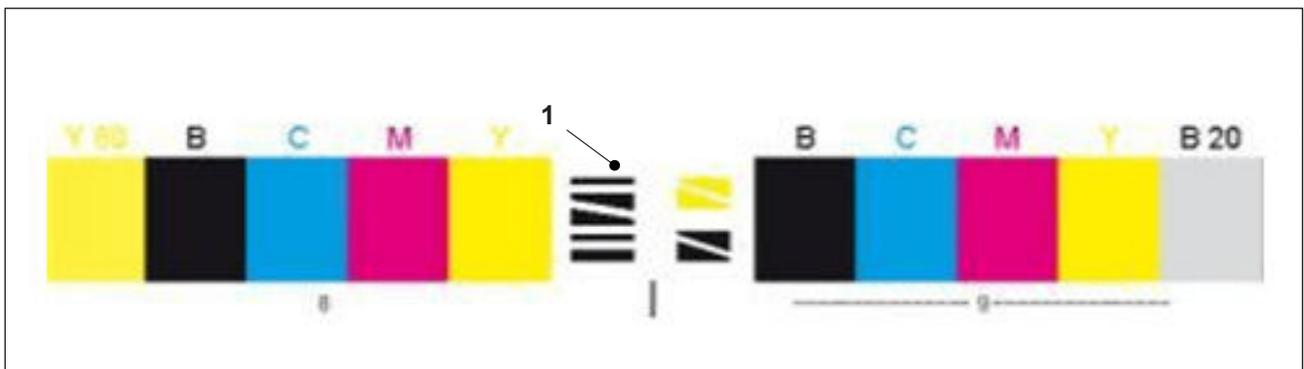

Fig. 32 Position mark, Princt Inpress Control
- For automatic detection of the quality control strip, position marks (Fig. 32/1) are located on the strip. It is vital that these position marks are in place! Otherwise, the quality control strip will not be found.